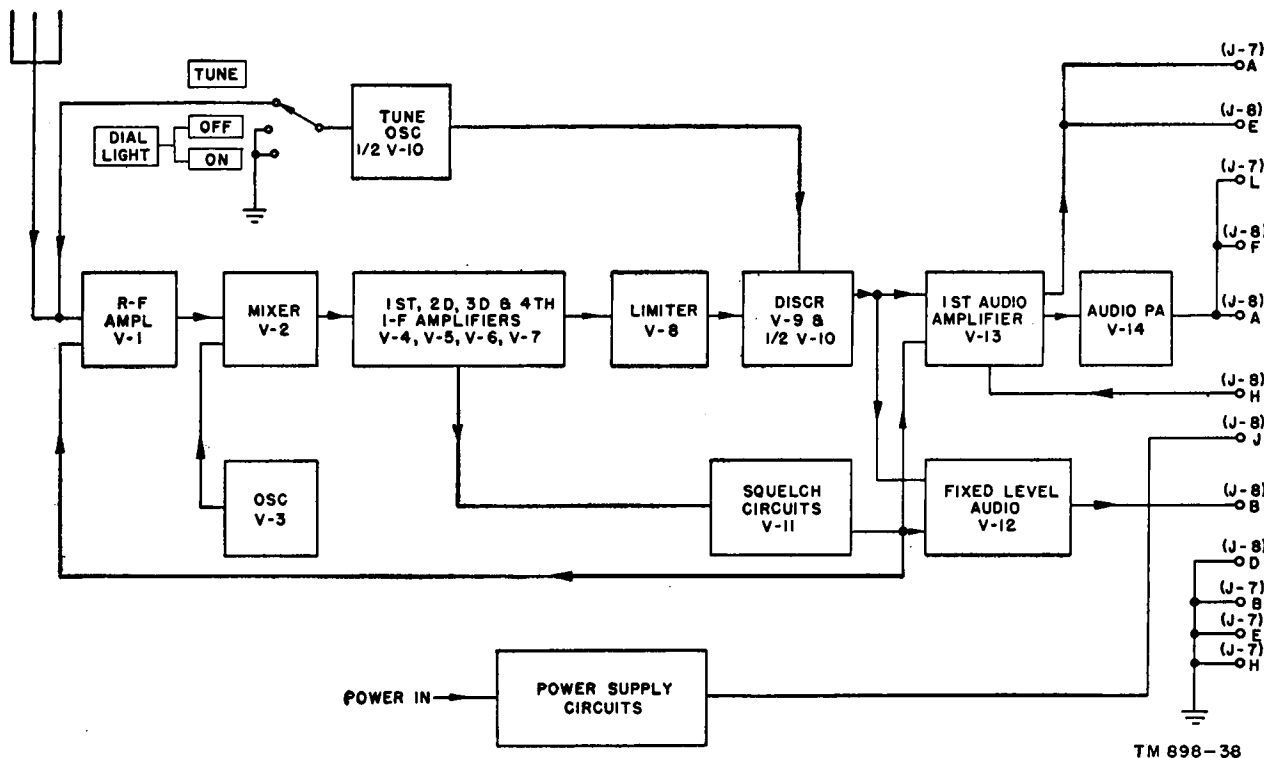

Figure 10. Typical radio receiver, block diagram.
(fig. 10)
a. GENERAL. The signal path of Radio Receiver R-108/GRC, R-109/GRC, or R-110/GRC is shown in the functional block diagram (fig. 10). Complete schematic diagrams for the equipments are shown in figures 35 through 37. The block diagram shows that the equipment consists of a single-conversion superheterodyne type of receiver, including a single r-f amplifier stage V-1; a variable oscillator V-3; a mixer stage V-2; a four-stage 4.3-mc i-f amplifier circuit V-4 through V-7; a single limiter stage V-8; an f-m discriminator V-9 and V-10 (diode section); and two parallel audio paths V-12 and V-13, V-14. The unit also includes provisions for including a vibrator type power supply unit and circuits for utilizing this vibrator power supply in conjunction with a suitable storage battery to provide the plate, screen, and filament voltages for operating the equipment. Auxiliary circuits provided include a tuning oscillator V-10 (pentode section), and a squelch circuit V-11.